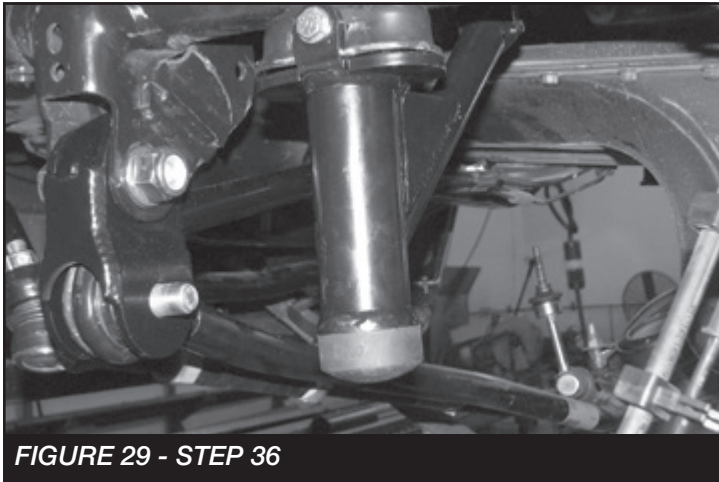

FIGURE 29 - STEP 36
36. Locate the FTS88 bump stop pad and thread it into the bottom of the Fabtech bump stop. **SEE FIGURE 29**